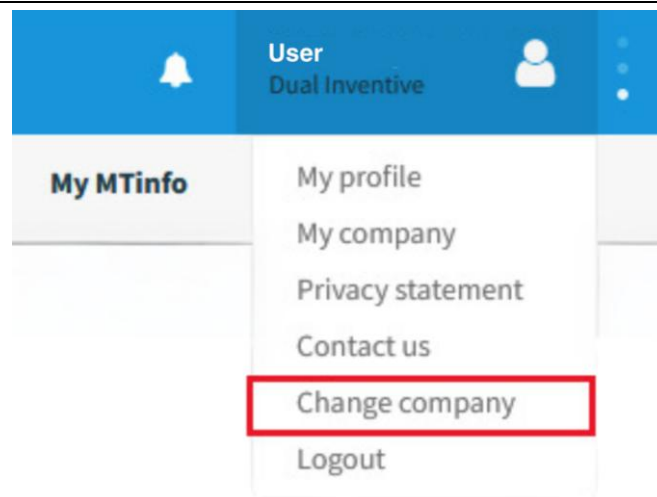

Figure 5 Change company
2. Select 'Change company' (see Figure 5) to switch your company.